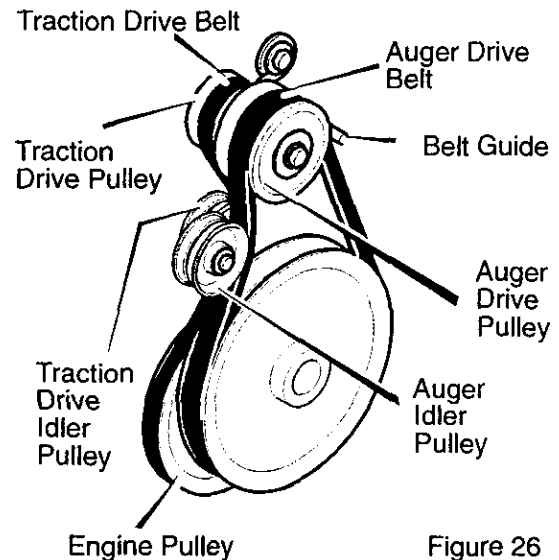

Figure 26
4. Pull the traction drive idler pulley away from the traction drive belt. See Figure 26.